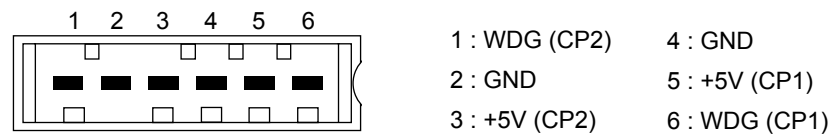

Figure 3 Pin connections of RCN-x
- ten connectors (RCN-1 to RCN-10) for connecting redundant I/O backplanes (10315/1/1) (see Figure 3),
Figure 3 below shows the pin connections of the RCN-x connectors, which are used to connect redundant I/O backplanes.